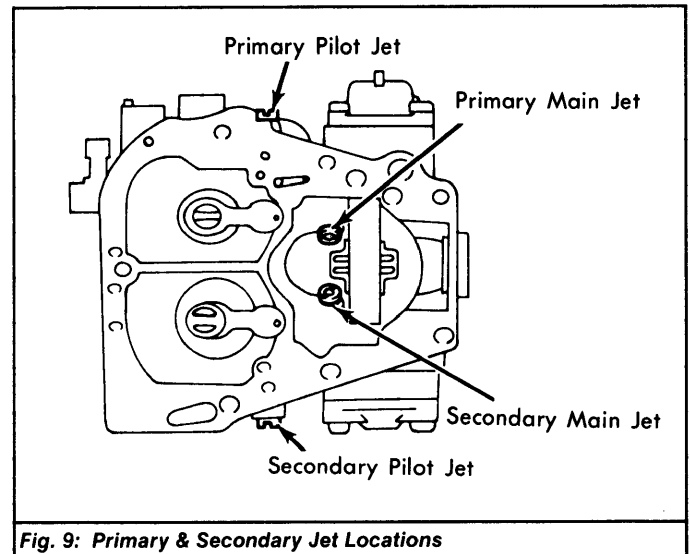

Fig. 9: Primary & Secondary Jet Locations
4) Remove fuel cut-off solenoid, main jets, and pilot jets. See Fig. 9. DO NOT tamper with factory preset by-pass screw or adjusting screw. Remove enrichment assembly, disconnect pump rod from throttle shaft lever, and remove accelerator pump assembly.